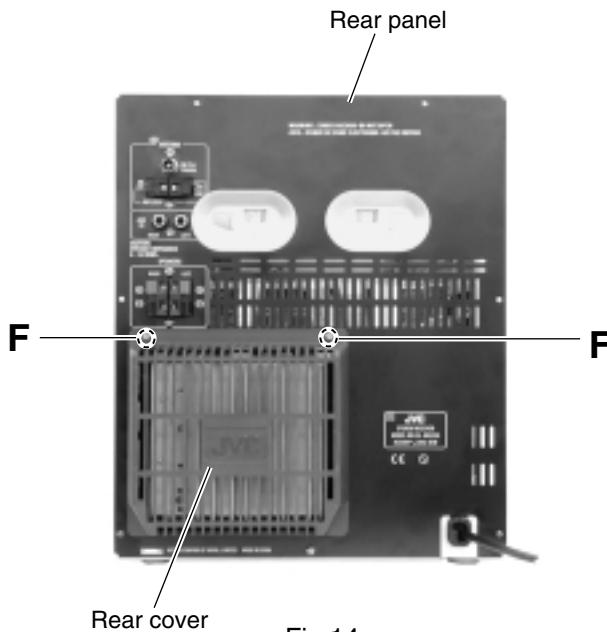

Fig.14
■ Removing the heat sink cover and the rear panel (See Fig.14 to 17)